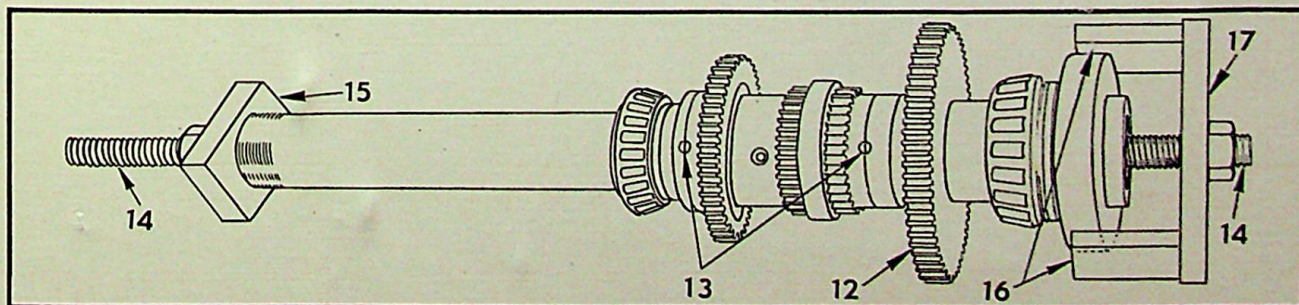

FIG. 53 Recommended Method—Spindle Removal
To proceed properly, thread a $\frac{3}{4}$ inch bar at both ends (14), Fig. 53.
Lay a block of steel (15) Fig. 53, drilled for the bar, against the back end of spindle. Use a similar, but longer bar (17) across the front end and prop it against the head stock with pieces of maple flooring (16) of proper length. By tightening the nut at the front end and striking on the back end at the same time, the spindle can now be pushed out of the head.